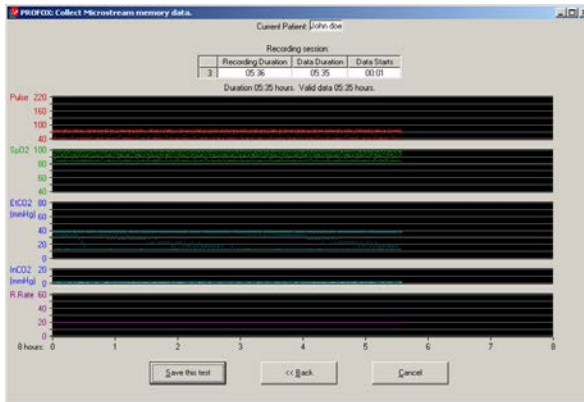

Figure 34. Profox Trends
- The Trends screen (seen in Figure 34. Profox Trends, below) will appear. To save the study, select *Save this test*.